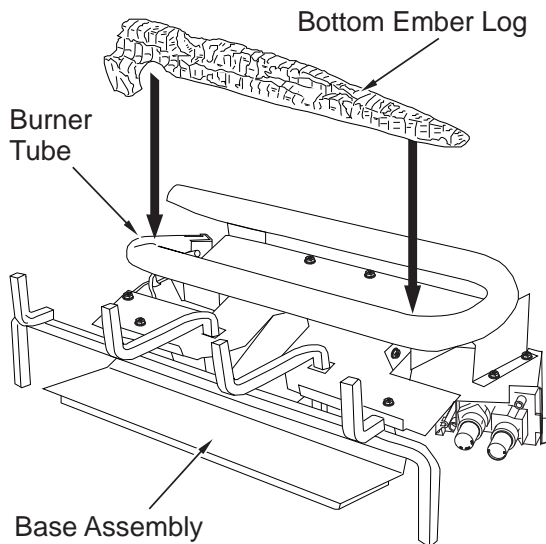

Figure 33 - Installing Bottom Ember Log
1. Place bottom ember log on base assembly as shown in **Figure 33**. The log should fit over the left side of the burner and rest in the middle of the U-burner.